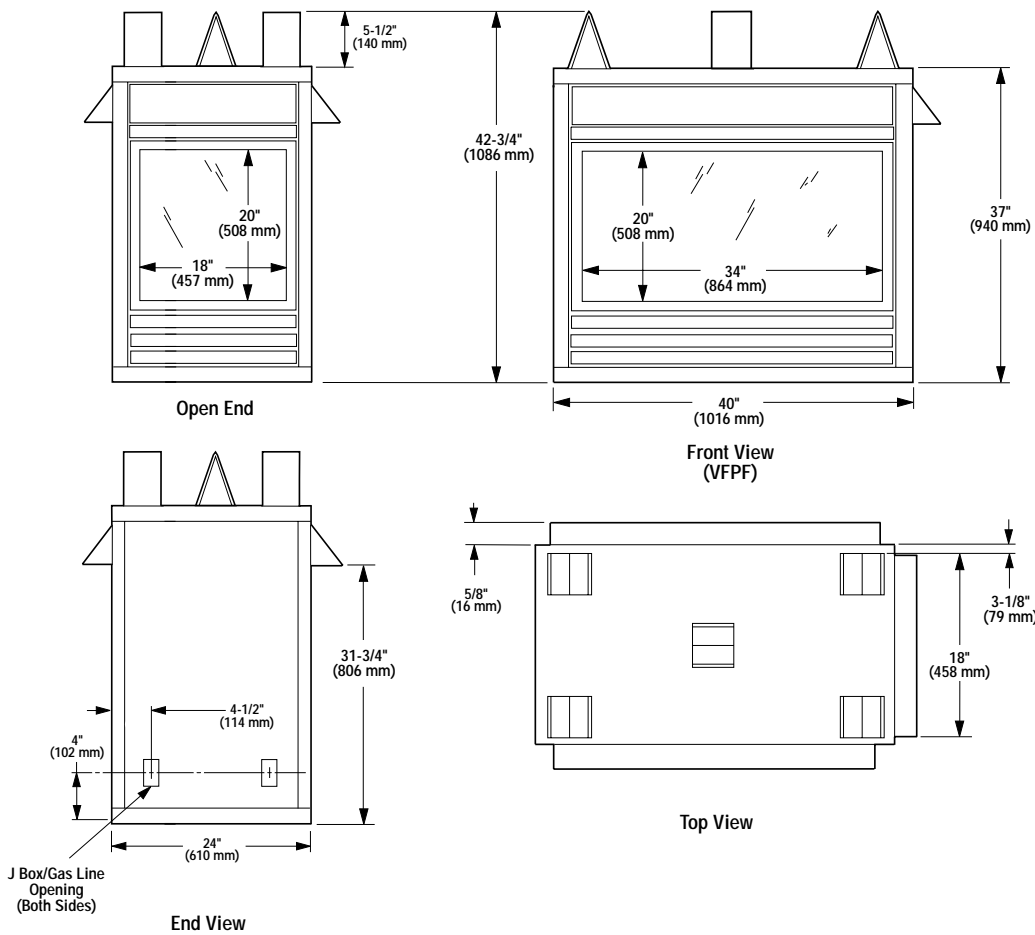

Figure 6
Step 2. Route a 1/2" (13 mm) gas line along the left or right side framing (*Figure 6*). The primary method for the SF is from the right end (when viewed from the control side) straight in to the valve. ST's may be routed as the PF's are, from the left using an assembly composed of a 3/8" street elbow, a 3/8" elbow and 3/8" 6" long nipple.